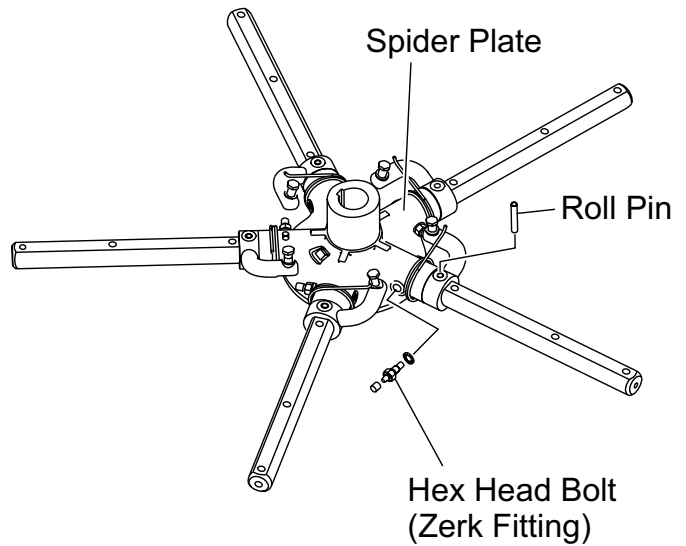

Figure 40. Removing Roll Pin and Grease Zerk Fitting
2. Each trowel arm is held in place at the spider plate by a hex head bolt (zerk grease fitting) and a roll pin. Remove both the hex head bolt and the roll pin (Figure 40) from the spider plate.